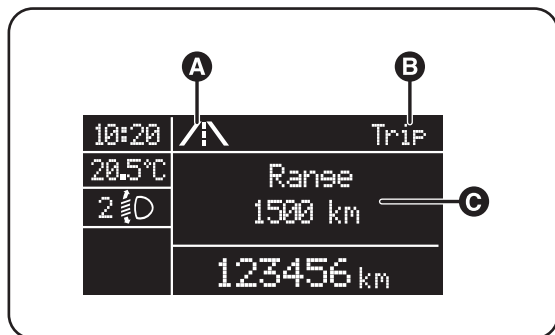

fig. 10
- animated icon in the upper part of the display (A-fig. 10);
- the word "Trip" (or "Trip A" or "Trip B") (B);
- the name, value and unit of measurement of the selected parameter (e.g. "Range 1500 km") (C).